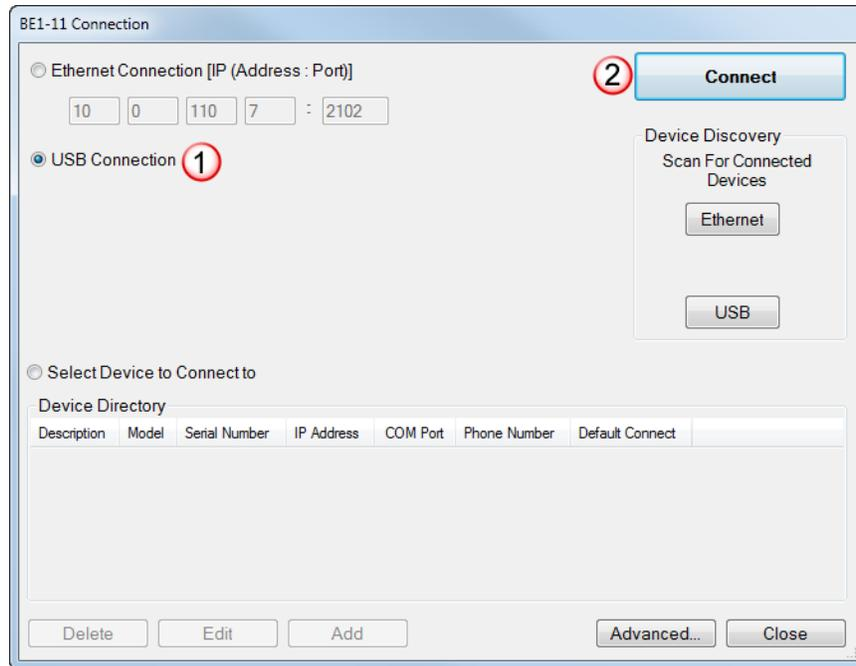

Figure 6. BE1-11 Connection Screen
The BE1-11 Connection screen shown in Figure 6 appears. Select USB Connection and then click the Connect button.
- Step 2: The BE1-11 Connection screen appears. See Figure 6. Select USB Connection and click Connect.